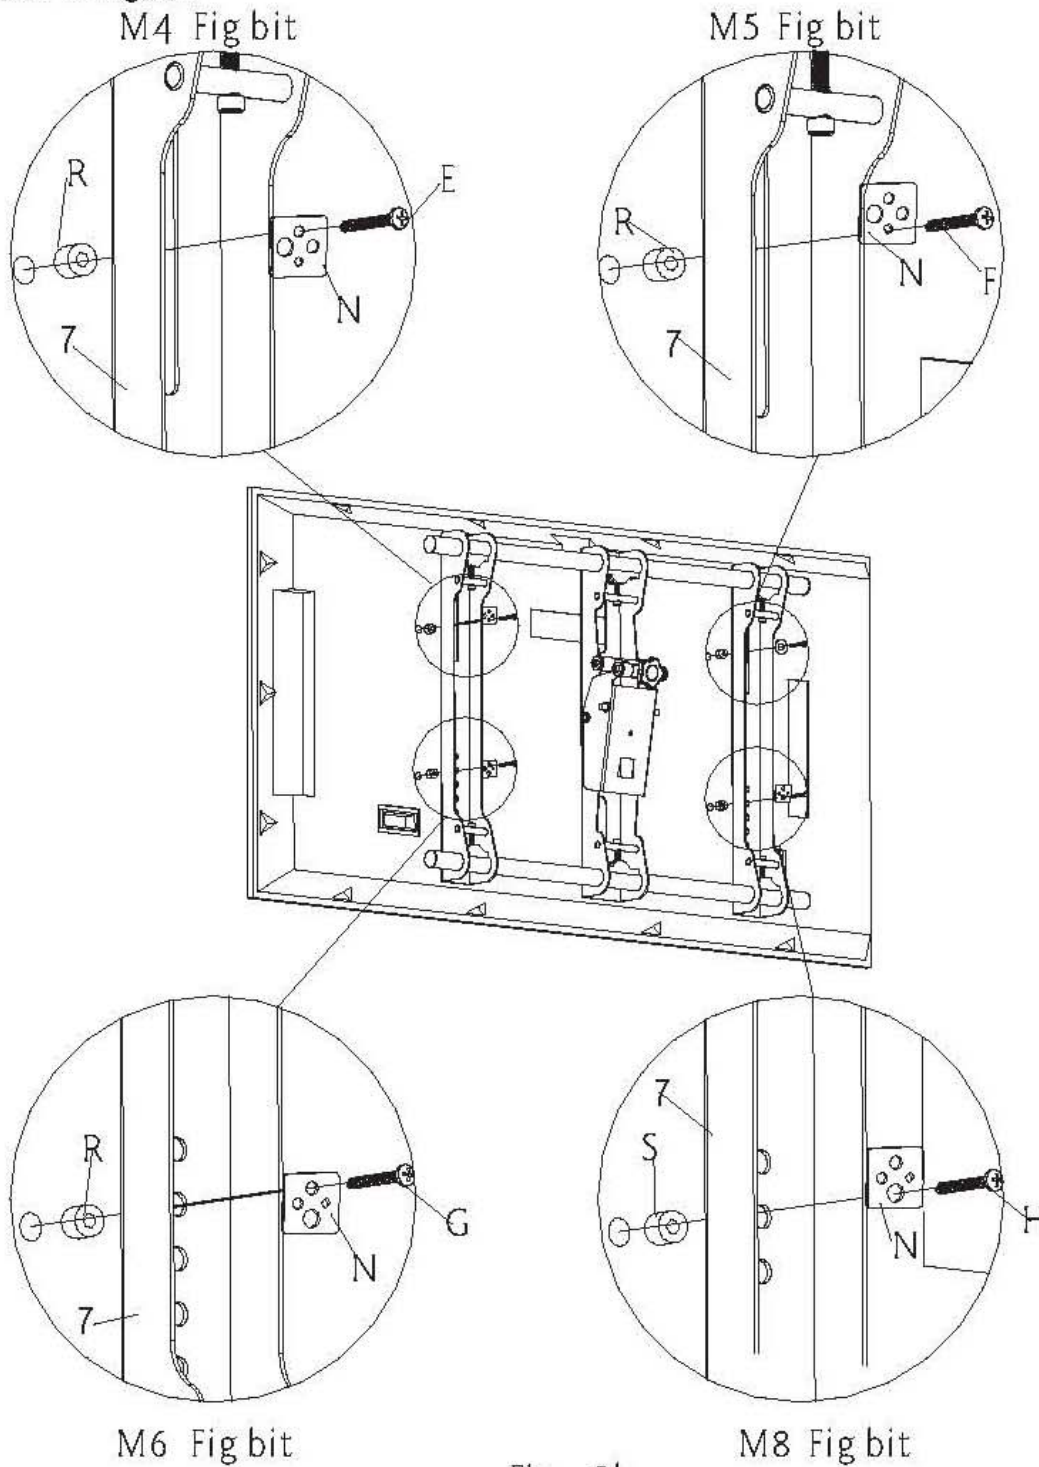

Fig 2b
2. Some displays have curved backs with recessed mounting lands (Fig.a). It will require the use of spacer. For this display, install a 9/16" spacer (R) or 1/2" spacer (S) between display and the bracket. As shown in Fig 2b.